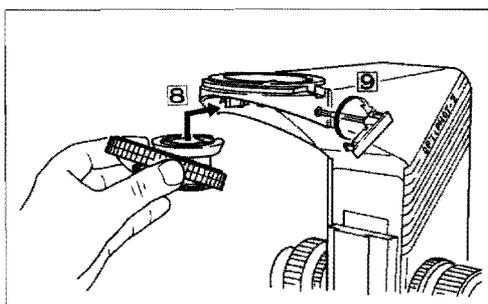

Fig. 2-10
- Sufficiently loosen the revolving nosepiece clamp screw using the hexagon wrench. To mount the revolving nosepiece push it so the groove of the revolving nosepiece engages with the pin of the circular dovetail ⑧. Fasten it with the revolving nosepiece clamp screw ⑨ (Fig. 2-10).